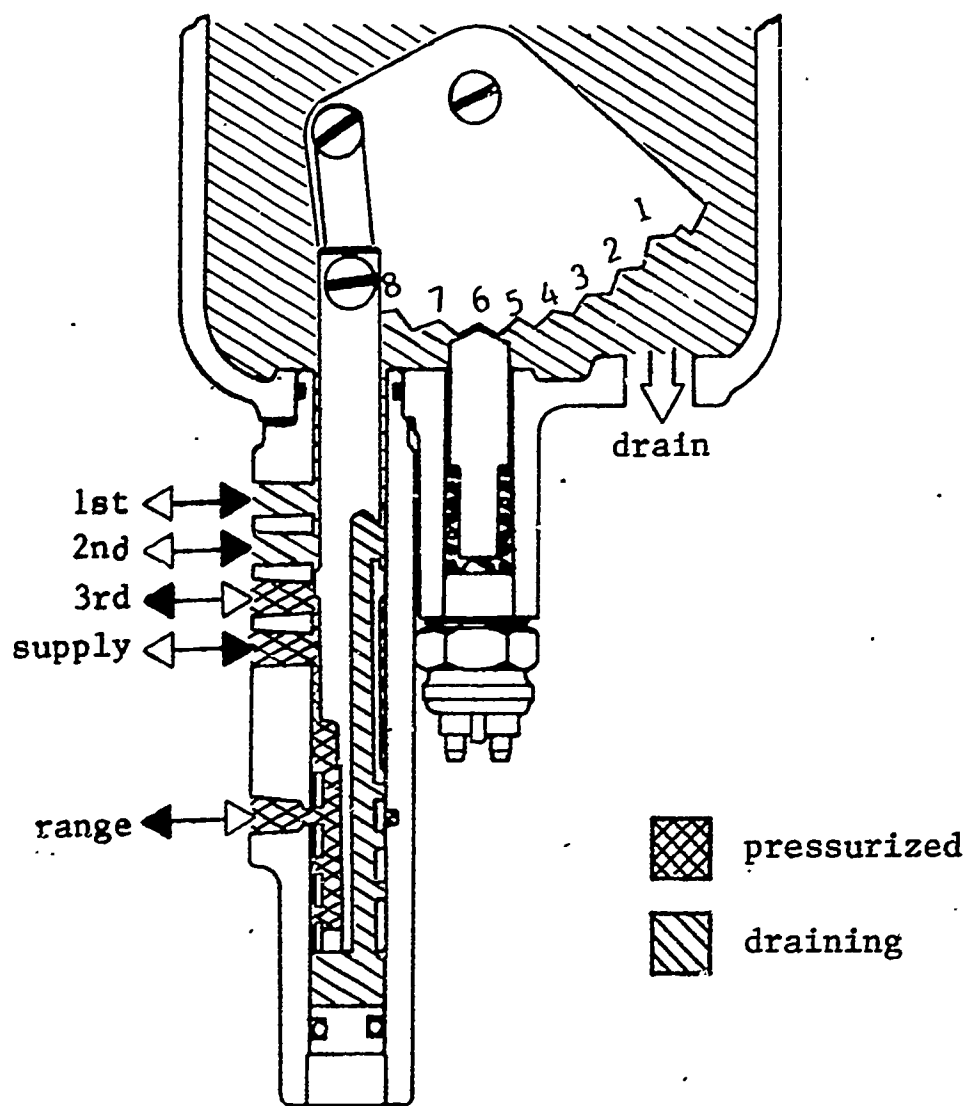

Fig. 8 Control valve in sixth gear
Figure 8 shows the shift control valve in sixth gear position or third reverse. There is pressure in hose (3) and in the range hose. Hoses (1) and (2) are draining off.